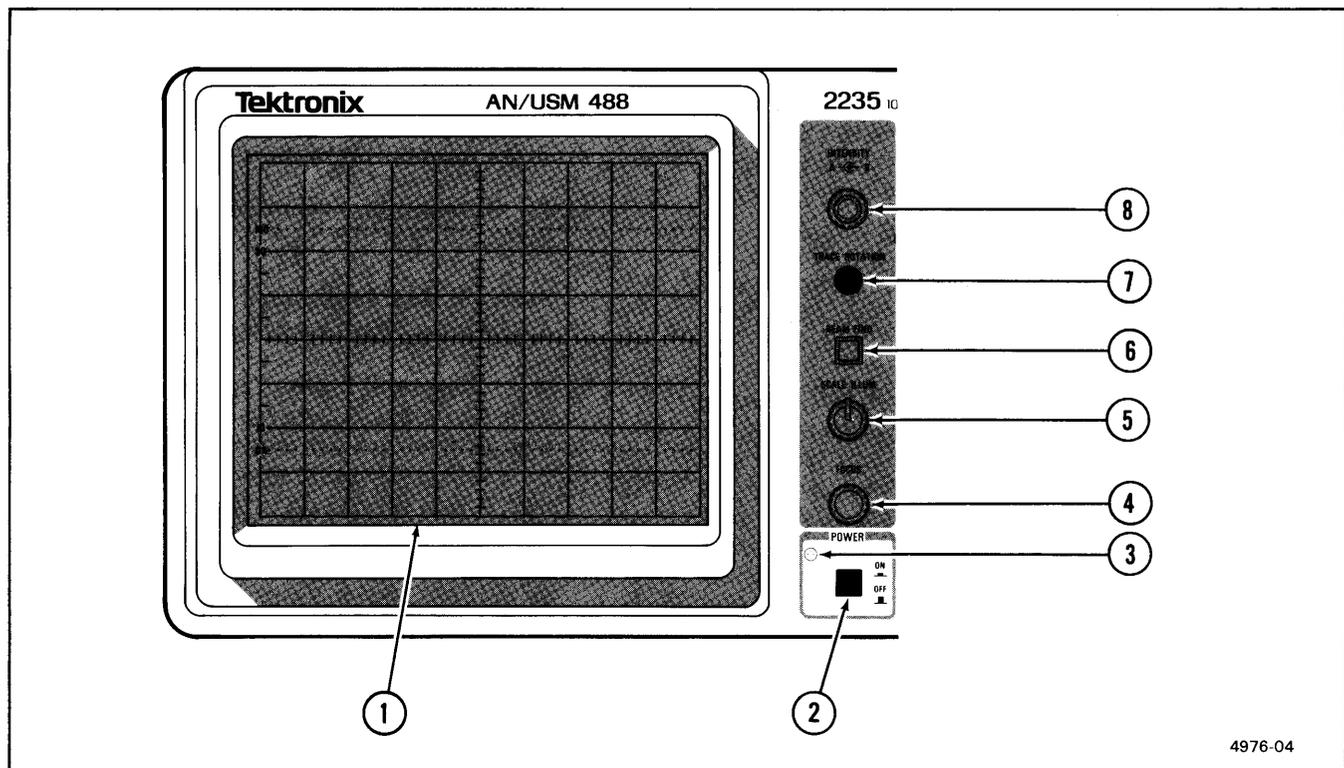

Figure 2-3. Power and display controls and indicator.
Refer to Figure 2-3 for location of items 1 through 8.
- ① **Internal Graticule**—Eliminates parallax viewing error between the trace and graticule lines. Rise-time amplitude and measurement points are indicated at the left edge of the graticule.
- ② **POWER Switch**—Turns instrument power on and off. Press in for ON; press again for OFF.
- ③ **Power Indicator**—An LED that illuminates when the instrument is operating.
- ④ **FOCUS Control**—Adjusts for optimum display definition.
- ⑤ **SCALE ILLUM Control**—Adjusts the light level of the graticule illumination.
- ⑥ **BEAM FIND Switch**—When held in, compresses the display to within the graticule area and provides a visible viewing intensity to aid in locating off-screen displays.
- ⑦ **TRACE ROTATION Control**—Screwdriver adjustment used to align the crt trace with the horizontal graticule lines.
- ⑧ **A and B INTENSITY Controls**—Determines the brightness of the A and B Sweep traces.